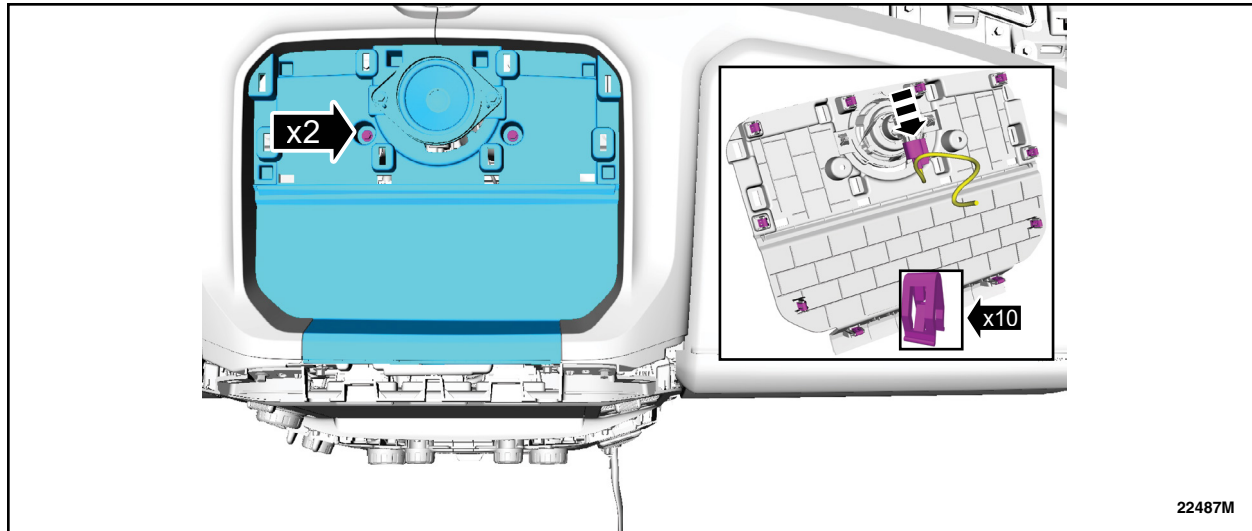

FIGURE 12
13. Remove the bolts, disconnect the electrical connector and remove the upper instrument panel storage tray. See Figure 12.